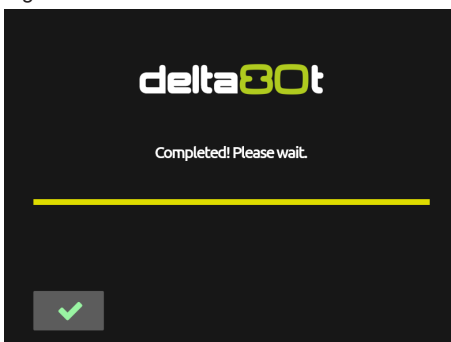

Fig. 175
- Wait for the device to finish updating (Fig. 175).
- If the update is successful the display shows Fig. 175. Otherwise, follow the instructions on the display.